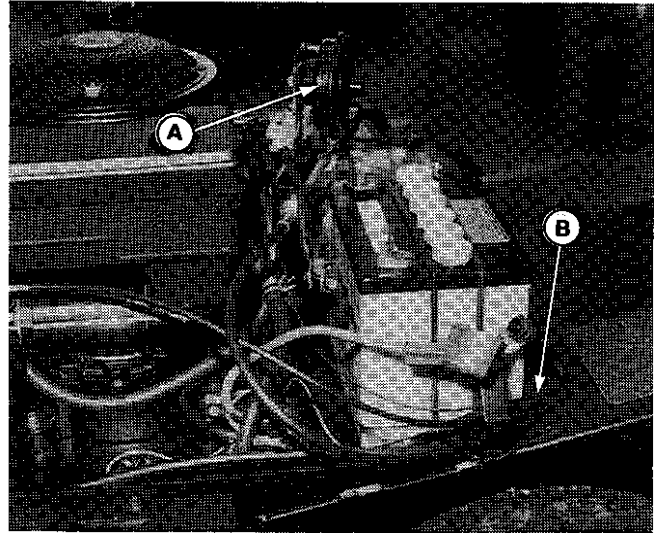

Figure 3. Early Gear Models
On newer gear models, battery is not located in rear compartment (see figure 3). This allows installation by either of the following methods.
3. Route the 45 inch wire along with other wires along right-hand side of frame and under footrest (figure 3).